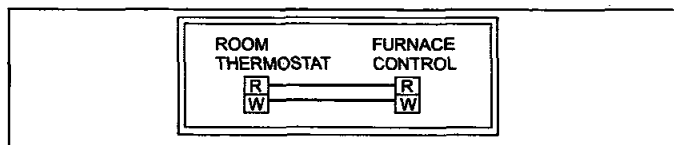
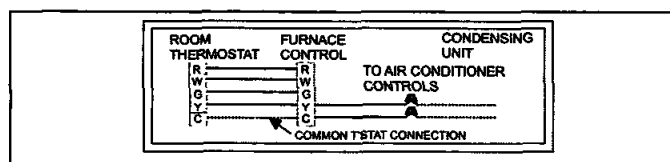

FIGURE 16: Wiring for Heat Only Thermostat
FIGURE 17: Wiring for Electronic Heat-Cool Thermostat
- Connect the thermostat wires to the furnace low voltage pigtails. See Figure 16 (heating only) and Figure 17 or 18 (heating and cooling).